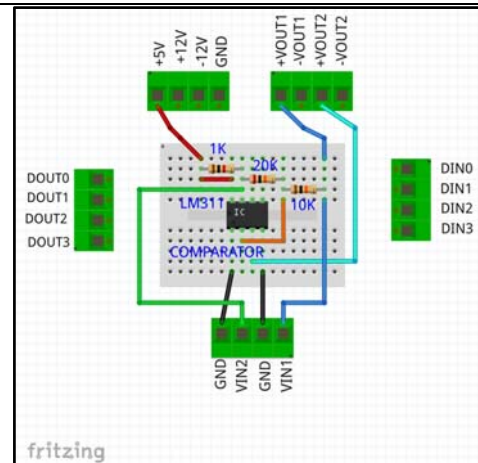

Fig 38. Test Setup
1. Connect Voltage Comparator using IC LM311 along with +5V supply and ground using the setup shown in Fig 38.